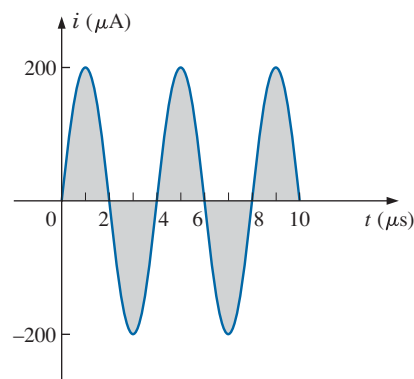

FIG. 13.86
2. For the sinusoidal signal in Fig. 13.86: